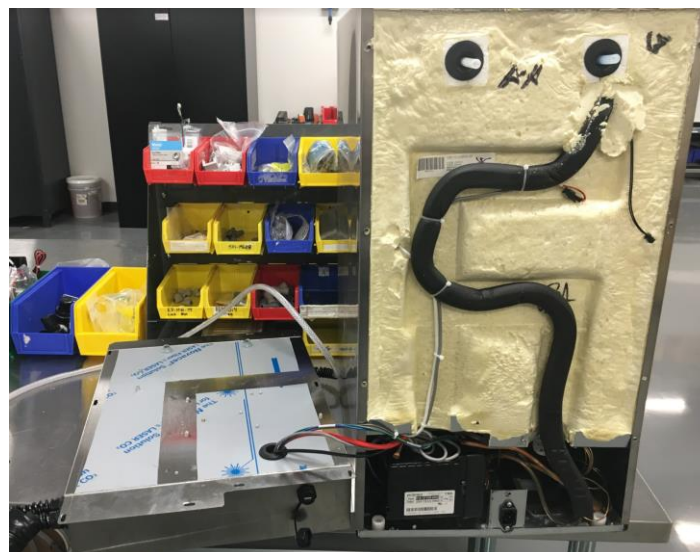

Figure L10: Rear Enclosure placed next to Fridge.
9. Place the Rear Enclosure next to the Fridge careful not to place any wires under strain or on any sharp edges that may damage the wires. See Figure L10.